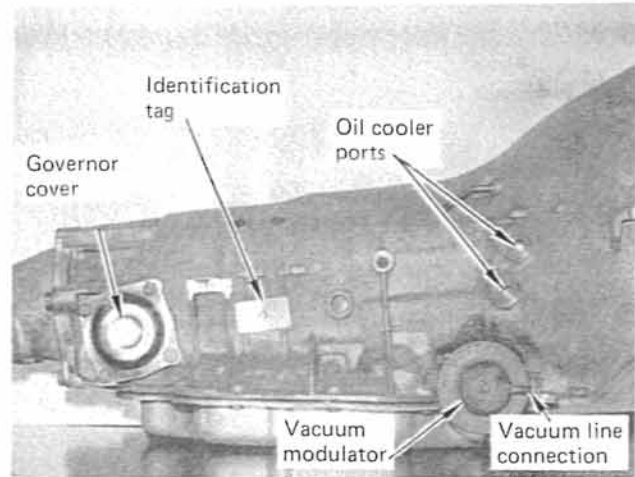

FIGURE 1
**STEP 3.** Loosen and disconnect oil cooler lines. Try to use a fitting wrench to avoid damaging the compression fitting nuts on stock oil cooler lines. Also disconnect vacuum line to vacuum modulator. (See Fig. 1)
There have been several different model TH400 transmissions produced since 1965. Where there are differences in disassembly procedures they will be so noted in the instructions. If you find it necessary to replace any transmission hard parts during TransKit installation, make sure to use the information on the I.D. tag on the right side of the case when you go to your G.M. dealer. (See Fig. 1)
**STEP 10.** Remove governor cover bolts and cover. (See Fig. 1) Remove and discard gasket. Remove governor by pulling straight out. Governor will rotate slightly during removal. Put governor in oil pan.